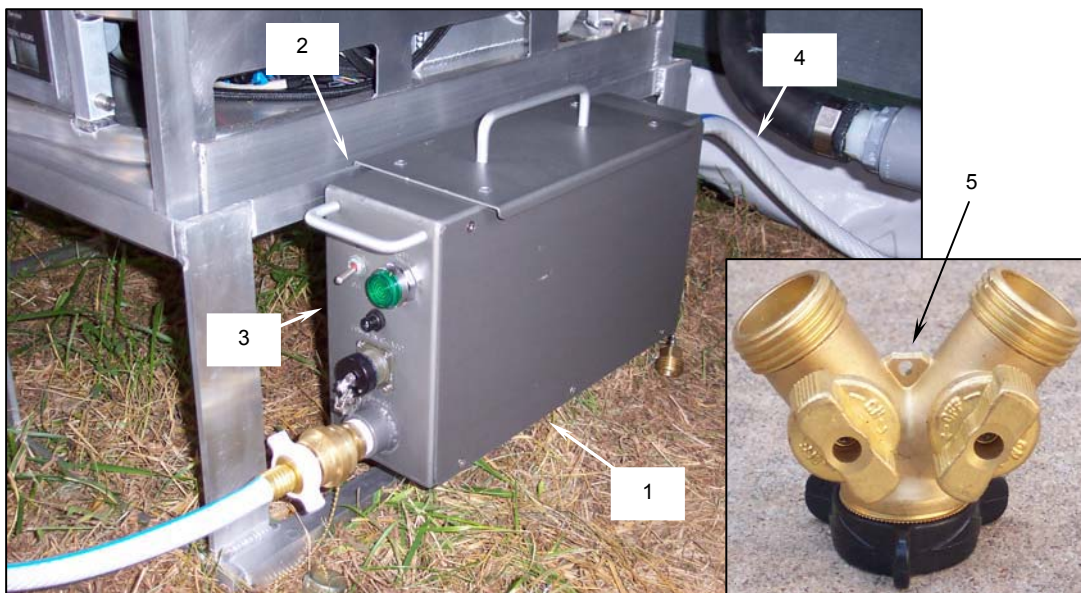

Figure 17. Sink Fill Pump Assembly and Supply Hose Installation.
- a. Hook the sink fill pump assembly (**Figure 17, Item 1**) onto the right sink assembly base rack (**Figure 17, Item 2**) so that the sink fill pump assembly controls (**Figure 17, Item 3**) face to the front of the sink assembly installation.
- b. Connect one end of the 50-ft water supply hose (**Figure 17, Item 4**) to the water inlet at the back of the sink fill pump assembly.
- c. Connect the other end of the 50-ft water supply hose to a suitable, potable water source. If a single source is required to supply water to both the FSC and the kitchen, a Y-adaptor (**Figure 17, Item 5**) is provided.